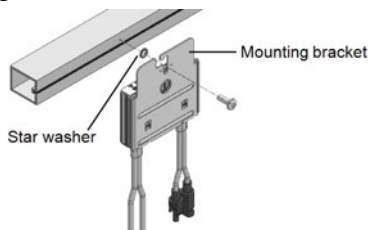

Figure 6: Power optimizer installation and grounding using a star washer
1. Determine the power optimizer mounting location and use the power optimizer mounting brackets to attach the power optimizer to the support structure (See *Figure 6*). It is recommended to mount the power optimizer in a location protected from direct sunlight. For frame-mounted power optimizers follow the instructions supplied with the optimizers, or refer to https://www.solaredge.com/sites/default/files/installing_frame_mounted_power_optimizers.pdf.
- **For mounting on a grounded metal rail:** Use the provided 5/16" stainless steel grounding star washer between the railing and the flat side of the mounting bracket. The grounding washer should break through the anodize coating of the railing to ensure low resistive connection. Apply torque of 9.5 N*m / 7 lb*ft. See *Figure 6*.